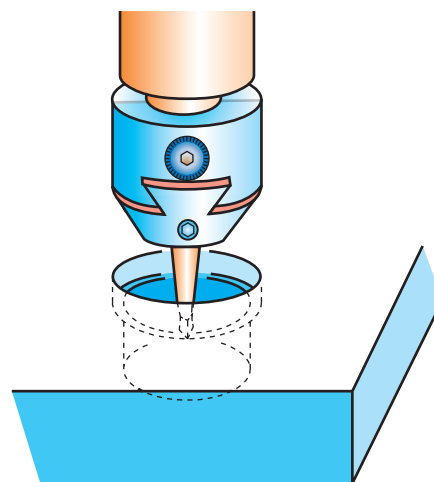

Figure 12-36 What is the name of the operation being performed and the advantages over drilling and reaming?
10. Describe the two advantages of using the operation shown in Fig. 12-36 over drilling and reaming a hole.